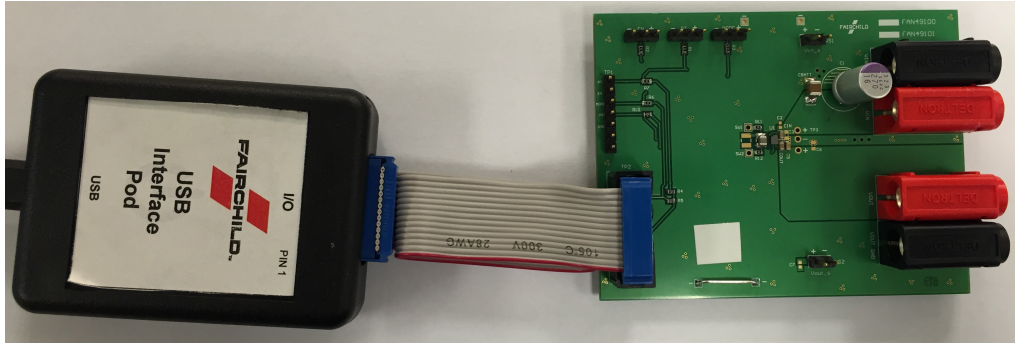

Figure 6. Connection of USB Interface POD to DUT
3. FAN49101 & FAN49103 Versions: Connect the USB Interface POD as shown in Figure 6.
- a. Connect provided USB Interface POD with the device under test as shown in Figure 6.